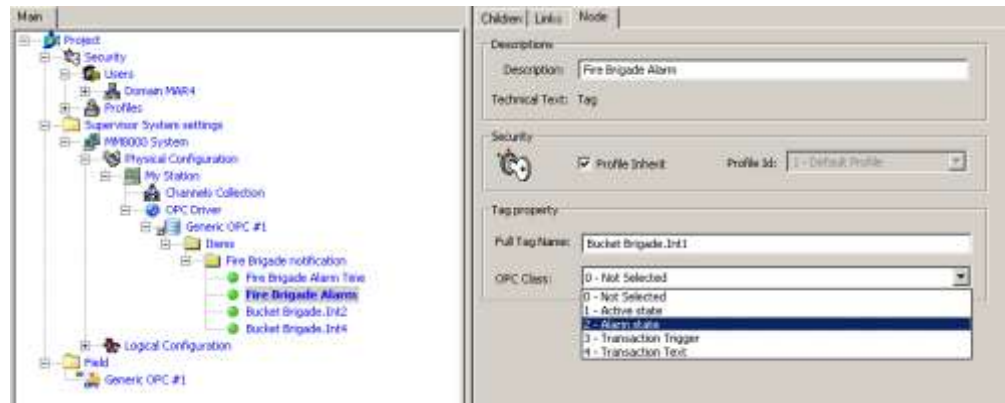

Fig 16 Selecting the OPC item class
- ➔ On the right, the OPC class form appears (Fig 16).